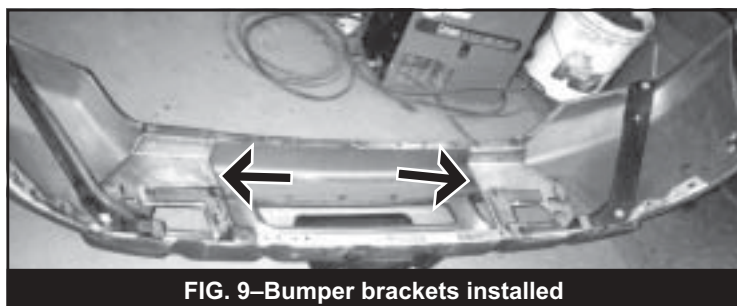

FIG. 9—Bumper brackets installed
42. Remove the OE bumper brackets from the bumper. Attach the new brackets to the bumper using the OE hardware (Fig. 9).